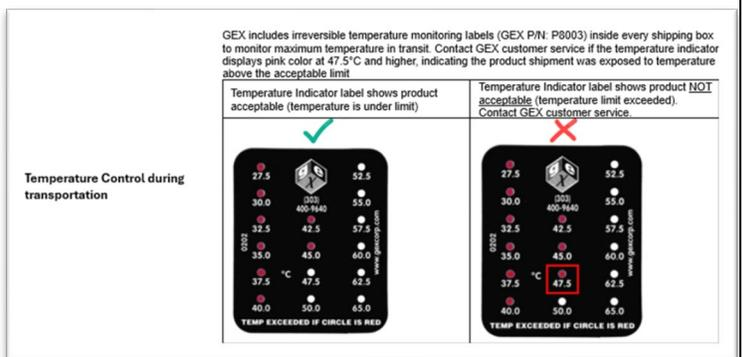

Figure 2: Temperature labels accompany each shipment
- Receive/Inspect:** Inspect shipping box and verify irreversible temperature label inside box; if label indicates exposure $\geq 47.5^\circ\text{C}$, contact GEX customer service before use. See Figure 2.